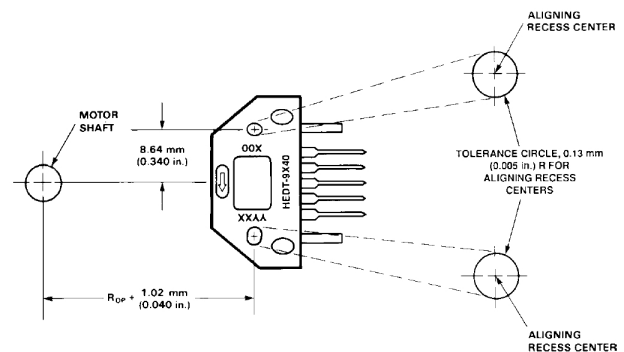
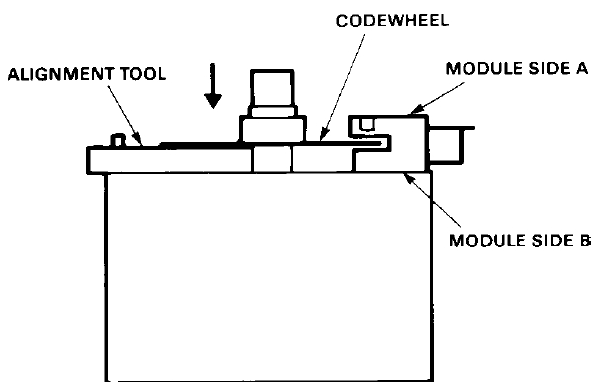

Figure 2. HEDT-9X40 Mounting Tolerance.
Figure 3. Alignment Tool is Used to Set Height of Codewheel.
Figure 2 shows a mounting tolerance requirement for proper operation of the HEDT-9040 and HEDT-9140. The Aligning Recess Centers must be located within a tolerance circle of 0.13 mm (0.005 in.) radius from the nominal locations. This tolerance must be maintained whether the module is mounted with Side A as the mounting plane using aligning pins (see Figure 5), or mounted with Side B as the mounting plane using an alignment tool (see Figures 3 and 4).
2. Set codewheel height: (a) place alignment tool on motor base (pins facing up) flush up against the motor shaft as shown in Figure 3. (b) Push codewheel down against alignment tool. The codewheel is now at the proper height. (c) Tighten codewheel setscrew and remove alignment tool.